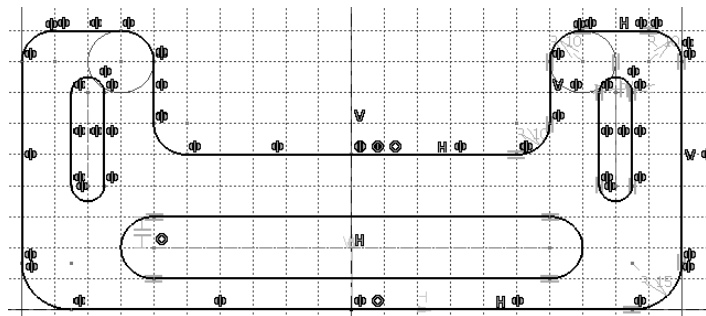

Figure 3-62 The sketch after creating the horizontal elongated hole
- Draw the elongated hole in the lower portion of the sketch, refer to Figure 3-62.
4. Draw the horizontal elongated hole to complete the sketch. The final sketch is shown in Figure 3-62. Press the ESC key to exit the selection set.